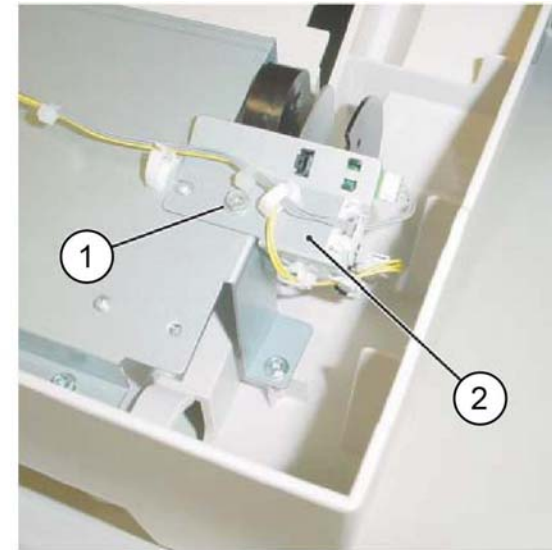

Figure 4 Stacker sensor assembly removal
8. Remove the stacker sensor assembly, Figure 4:
- a. Remove the screw (1).
- b. Remove the stacker sensor assembly (2).